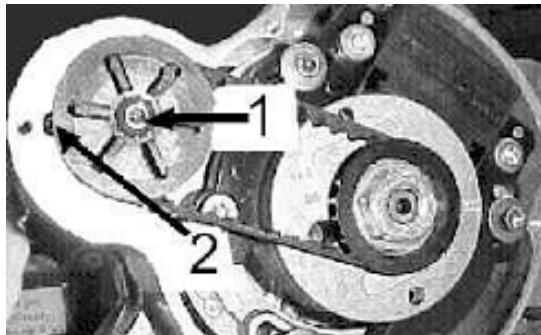

Figure 38
11. Remove bearing retainer screw using a 3mm hex key. (Figure 38 – item 2)